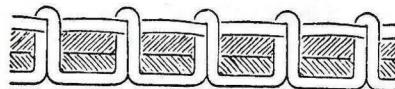

Fig. 11
- b. If tension of needle (upper) thread is too tight, or tension of bobbin (lower) thread is too loose, then needle thread will lie flat on top of fabric and bobbin thread will be pulled up to upper surface, being visible there in form of small knots (Fig. 11).